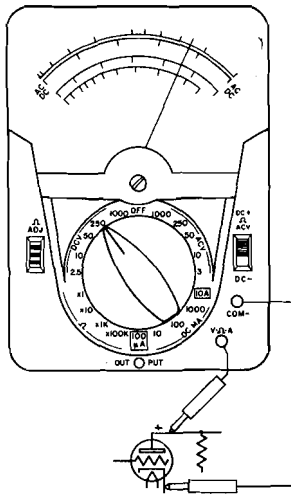

Fig. 1 Measuring DC Volts
3. Connect the test probes across the voltage to be measured as shown in Fig. 1.